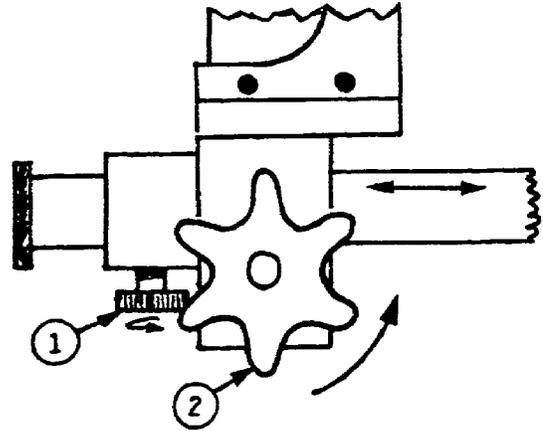

Figure 1-34. Carriage Knobs.
(2) Next you loosen Coarse Focusing. ○
the front and rear carriage lock knobs 1 (fig 1-34) enough to allow the front and rear carriages to slide on the monorail bed when the front and rear carriage adjust knobs ② are rotated.
(3) Increase or decrease the distance between the front carriage and rear carriage by turning the carriage adjust knobs ② until the object or scene to be photographed appears on the ground glass.